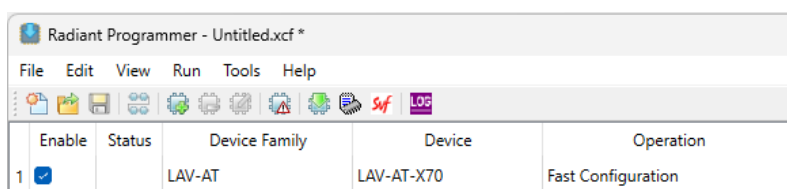

Figure 6.12. Device Selected for Programmer
8. Click on the highlighted item under the **Device** field to un-highlight it as shown in Figure 6.12.